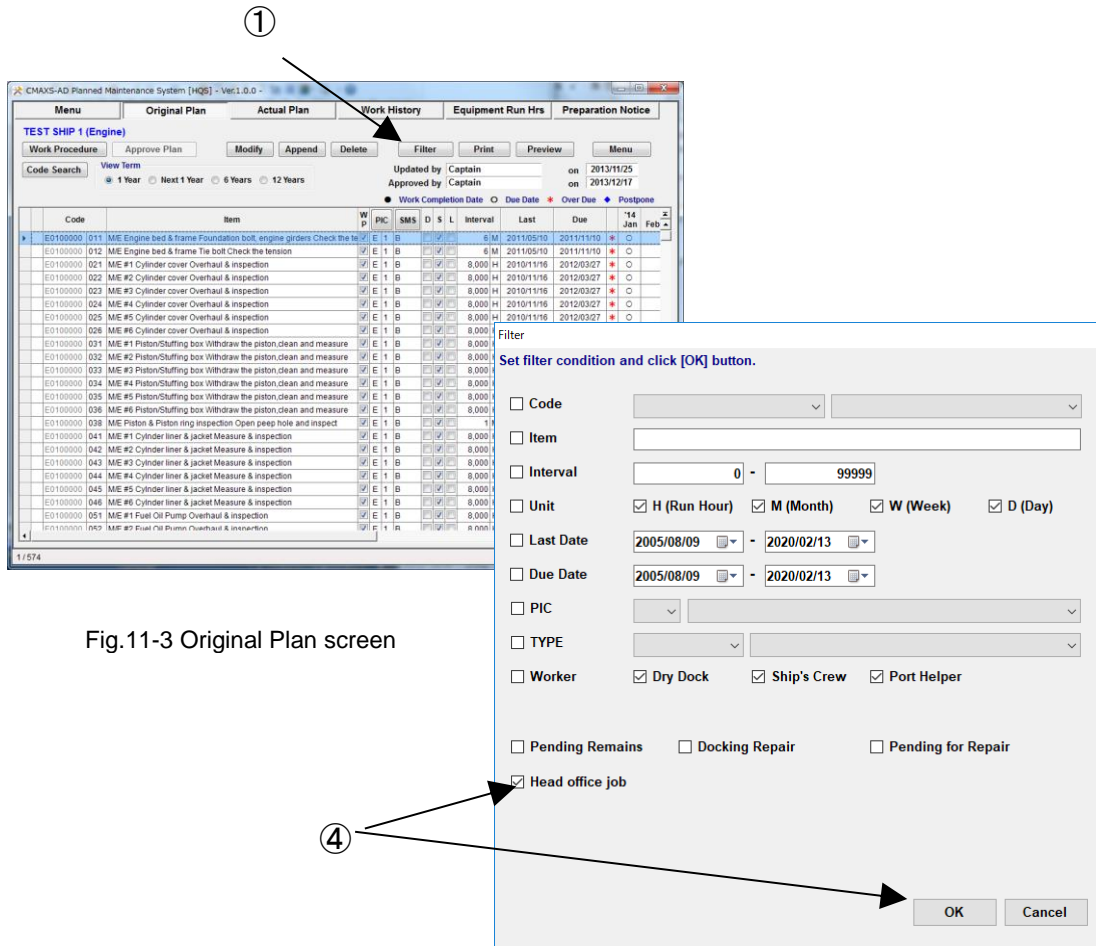

Fig.11-3 Original Plan screen
- (1) Select the 【Original Plan】 tab for 【Menu】
- (2) 【Original Plan screen】 (Figure 11-3) is displayed.